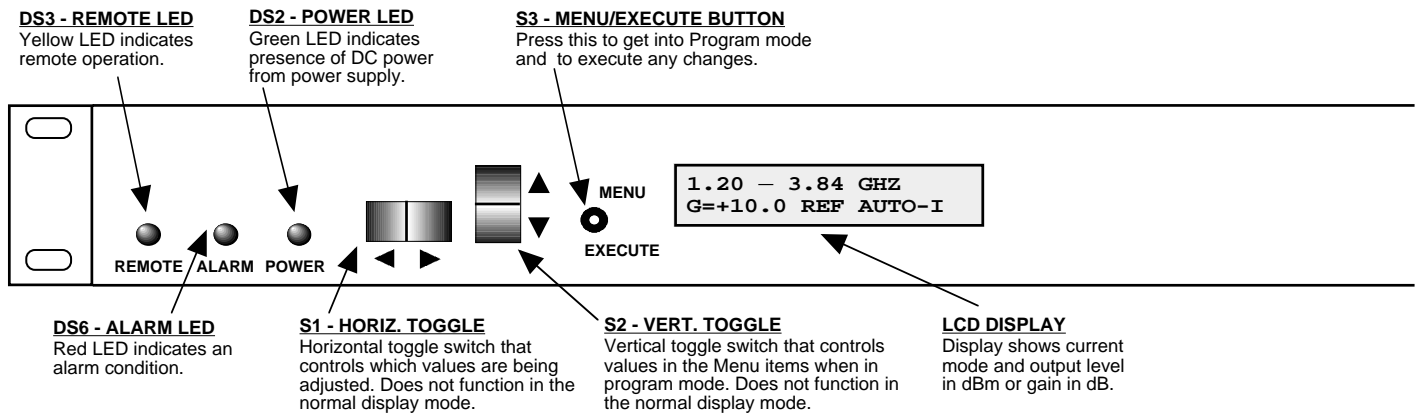

FIGURE 2.2 3115-35 Front Panel Controls and Indicators
Figure 2.2 shows the front panel controls and indicators.
5. Be sure DS2 (green, DC Power) is on and DS6 (red, Alarm) is off (Figure 2.2).
Alarm indications appear on the LEDs (see Figure 2.2).